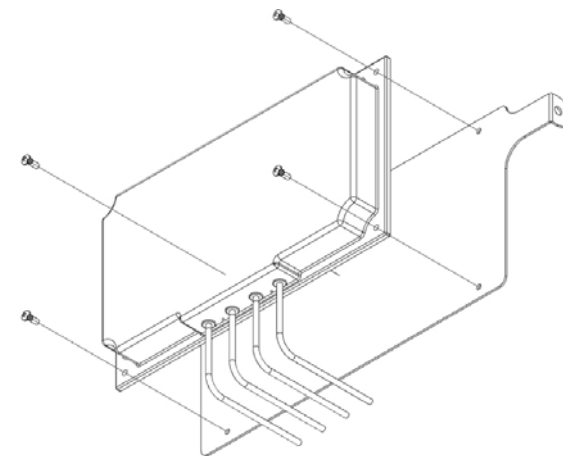

Figure 3
Step 3 – Attach antenna(s) using the #8-32 x 7/16 screws provided (Figure 3). Attach the antenna mount(s) with the provided screws to